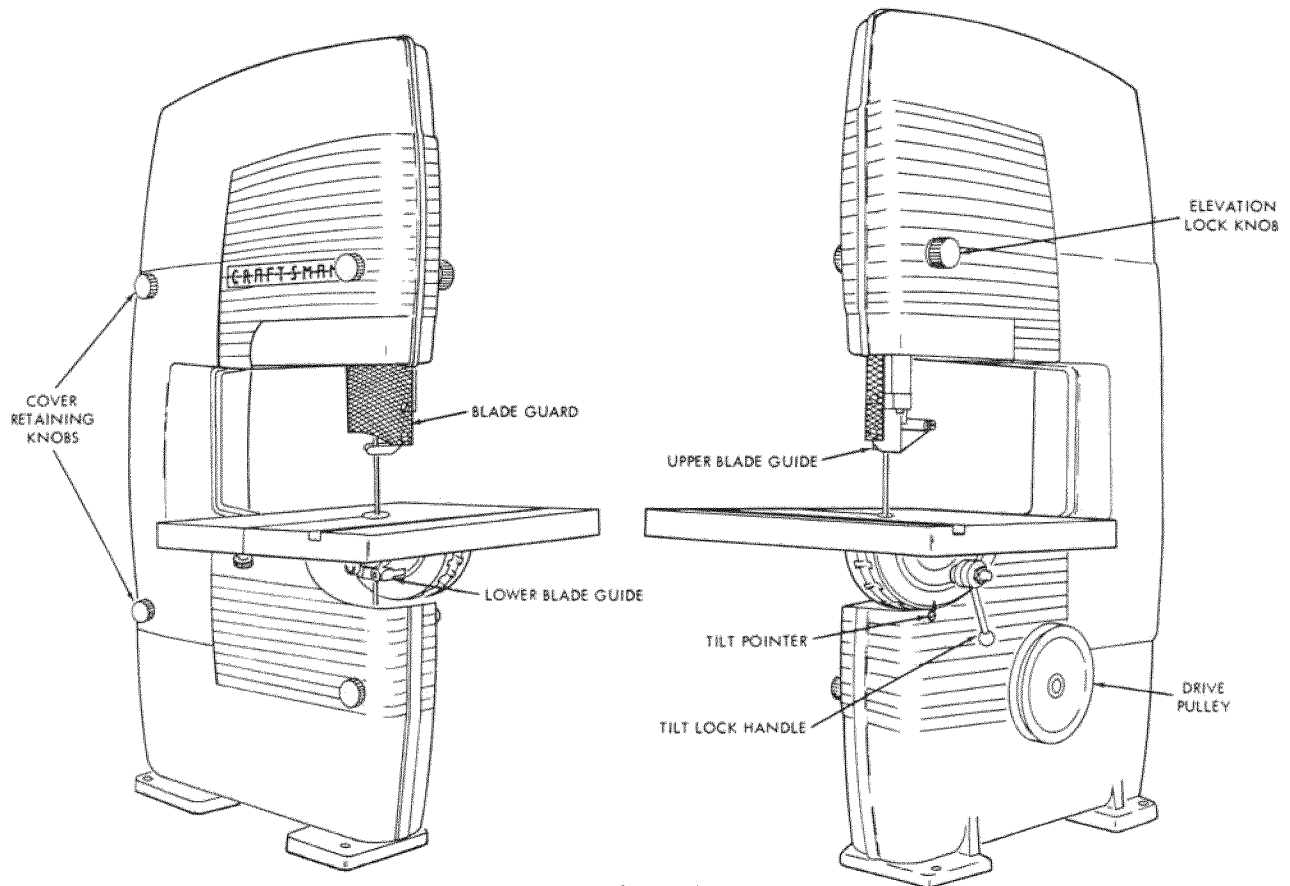
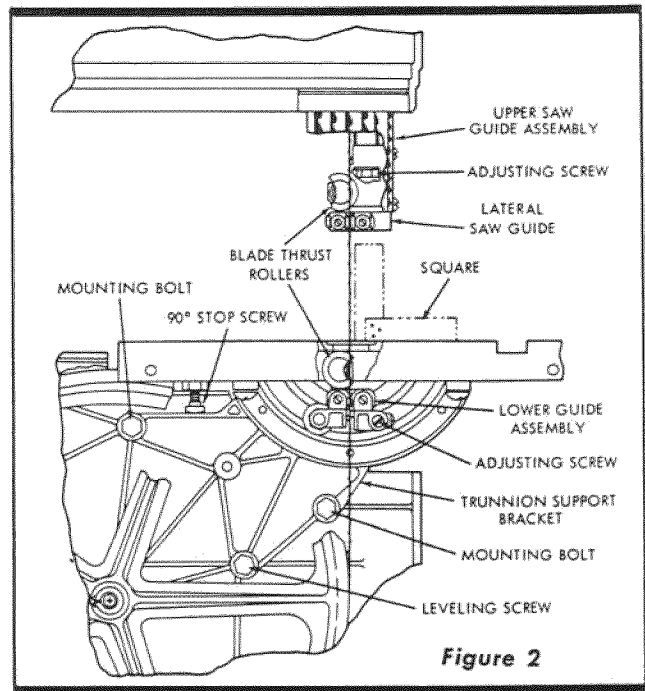

Figure 1
Figure 2
- a. Remove the four cover retaining knobs (1) and slide the cover (2) off the studs. (See figure 1.)
- b. Place the two mounting bolts (47) in the two holes of the trunnion support bracket (46) and mount the table (83) and trunnion support bracket (46) to the frame (82) as shown in figure 2. Leave these two bolts (47) loose enough to allow the entire assembly to be shifted.
- c. Insert the threaded stud (65), through leveling screw (67) and thread it to bottom of tapped hole in the frame.
- d. Place the lock washer (66) over the stud (65) and start the hex nut (32) on the stud. Tighten the nut to a snug fit. Tighten the two mounting bolts (47) to snug fit.
- e. Tilt the table so the 90° stop screw (84) is resting on the trunnion support bracket (46). Lock the table (83) in this position with the table tilt lock handle (79) as shown in figure 1.
- support bracket assembly with the saw blade by adjusting the leveling screw (67) in or out.
- j. Lock the screw (67) in place with the hex nut (32). Finish tightening the two mounting bolts (47).
- l. Correct the squareness of table to side of blade (if necessary), by adjusting the stop screw (84). (See figure 2.)
- b. Adjust the saw guide assemblies so the lateral saw guides (when adjusted) will contact the blade on the solid portion only, not on the teeth or valleys between teeth. (See figure 2.) This is accomplished by loosening the saw guide assembly adjusting screws and moving the saw guide assemblies forward or backward as required. When the adjustment is correct, lock the saw guide assemblies in position.
- f. The table should be square with the blade and, at the same time, the pointer should indicate zero on the scale. If a correction is necessary, it may be made by placing an accurate square on the table surface and against the saw blade. (See figure 2.) Adjust the 90° stop screw until the adjustment is correct.
- g. The table tilt pointer may now be readjusted to the zero mark on the scale by loosening the screw which holds the pointer to the saw. (See figure 1.)
1. Controls. The operator should become familiar with all controls before operating the saw. A little time spent in this effort will protect the saw and insure operational safety. (See figures 2 and 4.)
The blade thrust rollers should be lubricated occasionally. (See figure 2, for locations of these rollers.) Other moving and sliding parts such as the guide slide bar (15, figure 5) and table trunnions (52 and 45) may require occasional lubrication to maintain smooth operation.